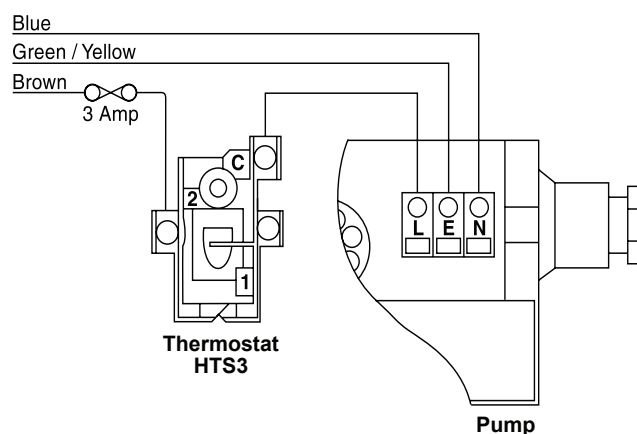

Fig. 6 HTS3 Wiring diagram - When hot 2 and C make contact
- Remove the HTS3 cover by undoing the central retaining screw and connect the cable as shown in Figure 6, HTS3 Wiring diagram.